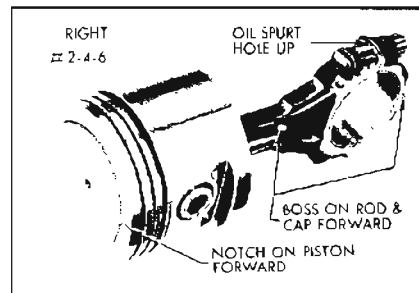

Figure 2-51—V-6 Right Bank Piston and Rod Assembly
7. Remove compression rings with expander and remove oil ring by removing the two rails, and spacer-expander which are separate pieces in each piston third groove. See Figures 2-51 and 2-52.